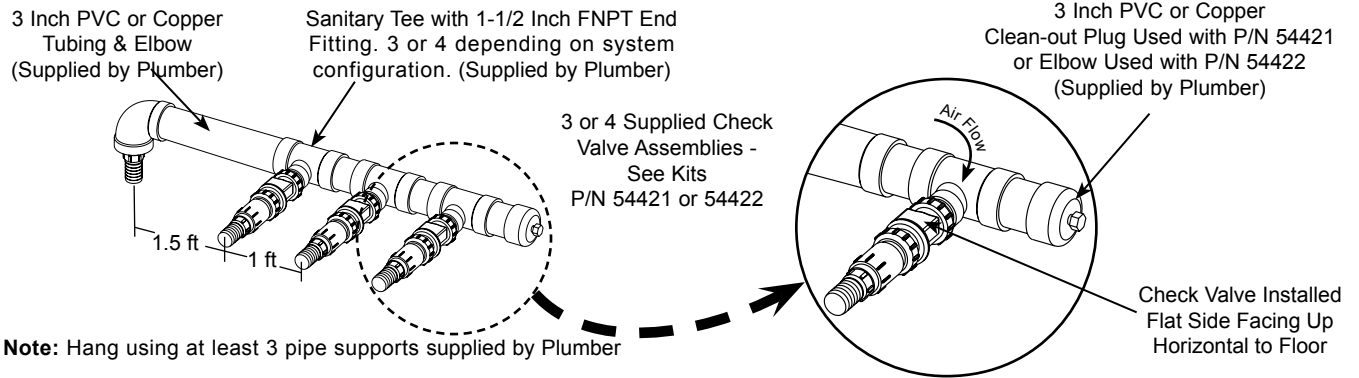

Figure 9. Pump/Tank Connection Manifold Using Accessory Kits P/N 54421 or 54422
1. Fabricate a Pump/Tank Connection Manifold (as shown by Figure 9) using check valves supplied in associated accessory Kit
Figures 9 and 10 show the parts identification and associated schematic of the electrical box used in STS-5 system pumps. Refer to the figures when making electrical connections or replacing a defective component isolated as a result of performing troubleshooting procedures.
The STS system vacuum level is factory set at 10 InHg (inches of Mercury) as shown by the Vacuum Gauge. This suction level is more than adequate to provide a properly sized system service for a multiple-user dental facility. Whenever the suction level varies above or below the factory set point, adjustments can be made as necessary via the Vacuum Relief Valve. Refer to Figure 9 and adjust the system suction level by performing the following: